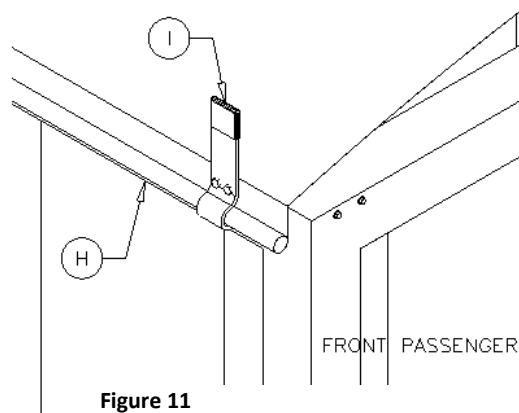

Figure 11
(See Figure 11)
Procedure: Raise the roll-tube and place it on the top passenger side of the bows and end caps making sure that the OPEN SIDE of the roll tube is at the front of the box. Reverse rolls would be placed on the driver side. Roll out the tarp to the driver side (passenger side for reverse roll). Position the tarp so that the material sits 1-1/2 inches in from the face of the front-end cap. Smoothen the tarp out and apply as much tension to it as possible by pulling down on the loose end of the tarp. The pocket holding the quick release pipe (H) should hang down the side of the trailer approximately 3-1/2 inches. The quick release pipe (1-1/8" pipe in the tarps pocket) will be held against the side of the trailer by the round tarp stops (I) shown in Figure 11. Make sure the tarp material is 2 inches in from the face of the front-end cap. Mount the front round tarp stop 4 inches in from the front edge of the tarp material. Drill a 3/8" hole through the predilled holes in the tarp stop and into the trailer. Secure the stops using the 3/8"x2-1/2" bolts with lock nuts and flat washers provided. Next mount the rear tarp stop 4 inches in from the rear edge of the tarp material, ensure the tarp material is pulled tight from end to end. The remaining round tarp stops are to be centered according to the length of the trailer. Make sure that the quick release pipe (H) is positioned parallel with the trailer lip.